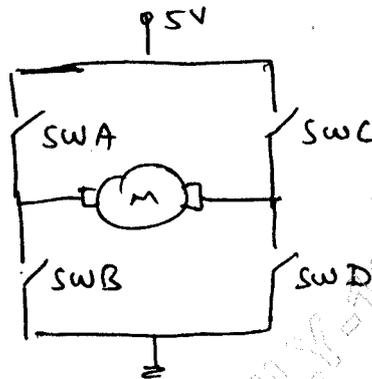

Fig.Q9(b)
- b. The direction of a DC motor is controlled by using a H-bridge as shown below in Fig.Q9(b).